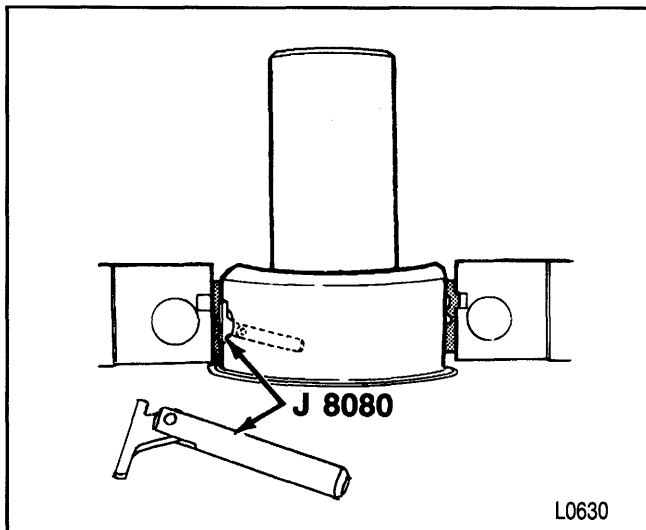

Figure 36—Removing the Main Bearing Insert
↔ Remove or Disconnect (Figure 36)
- A. Insert J 8080 into the crankshaft oil hole (figure 36).
↔ Install or Connect (Figures 36 and 37)
- A. Insert tool J 8080 into a crankshaft main bearing oil hole (figure 36).